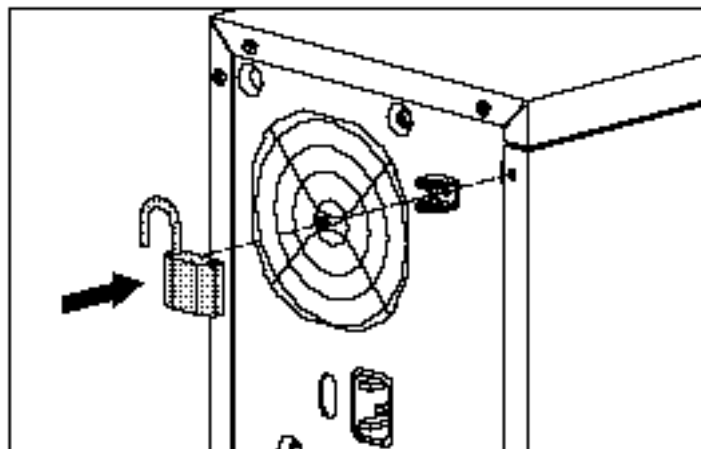

Figure E-2. Securing the system with a user-supplied padlock
2. If desired, the side access panel can be locked (with a customer-supplied padlock) to prevent unauthorized access to system components. See Figure E-2 for information.